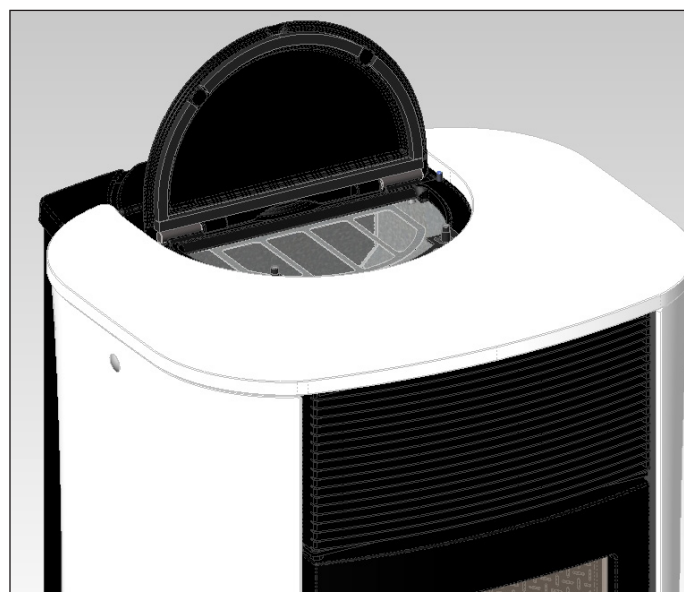

fig. 2
- Put a short pipe cover element on from the front (B - fig. 2) and a long pipe cover element on from the back (C - fig. 2)